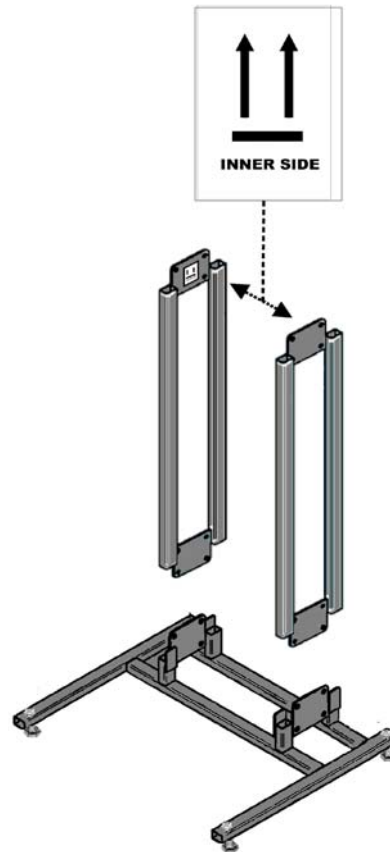

Figure 4-3: Attaching the stand extensions
2. Fit a stand extension onto the base (see figure 4-3).